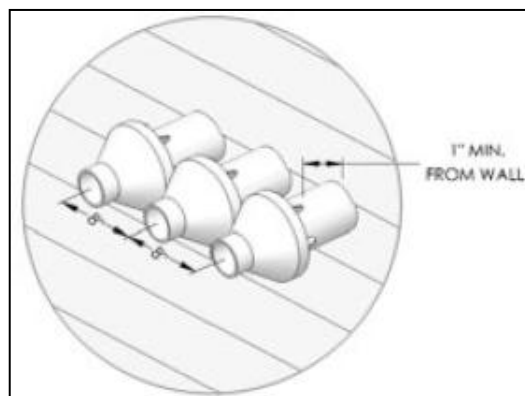

Figure 7 – Multiple Boiler Installations
9. Allow 8" center-to-center distance between concentric vent terminations on multiple boiler installations (see Fig. 7).